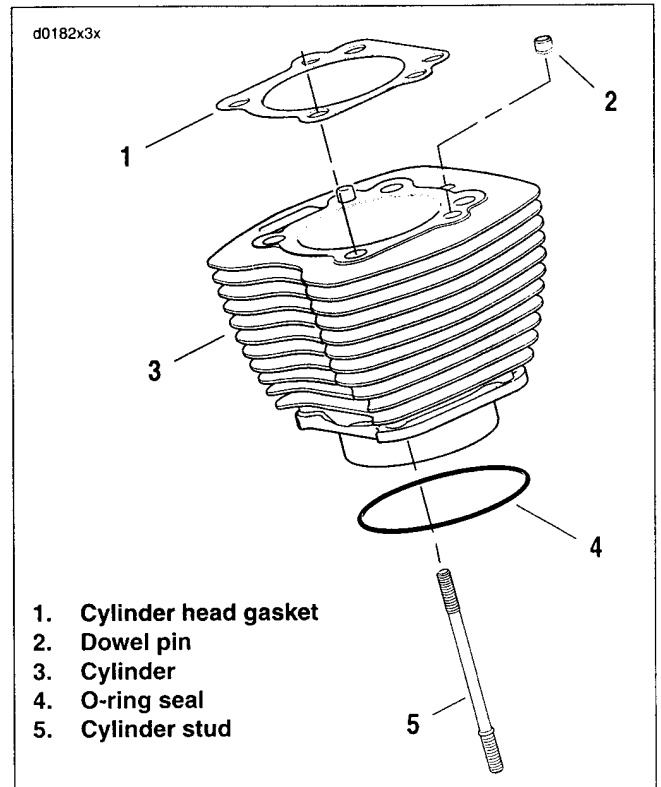

Figure 3-109. Cylinder Assembly
1. See Figure 3-109. Scrape old cylinder head gasket material from the machined surface at the top of the cylinder (3). Old gasket material left on the mating surface will cause leaks.